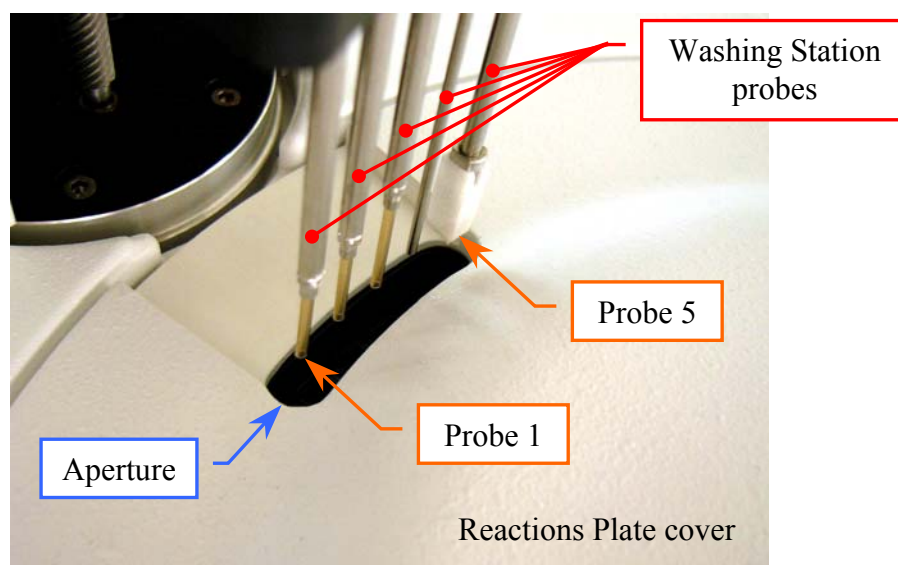

Fig. 133 - Aperture of the Reactions Plate cover
11. Push the Service Probe through the aperture of the Reactions Plate cover (**Fig. 133**).
12. Insert the Service Probe inside the cuvette placed under the Probe 5 of the Washing Station (**Fig. 133**) until the NTC touches the bottom of the cuvette, shake slightly it and read the temperature value (°C) showed in the “Service Probe” text box (note: the temperature of the liquid of this cuvette is that more affected by the Pre-Heater heating).
13. Insert the Service Probe inside the cuvette placed under the Probe 1 of the Washing Station (**Fig. 133**) until the NTC touches the bottom of the cuvette, shake slightly it and read the temperature value (°C) showed in the “Service Probe” text box (note: the temperature of the liquid of this cuvette is that more affected by the Reactions Plate resistor heating).